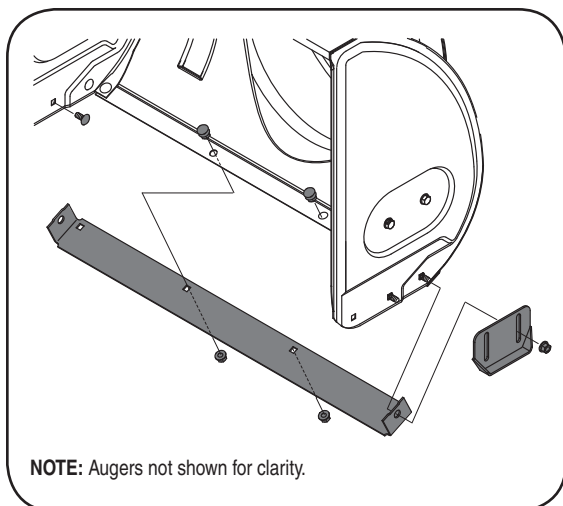

Figure 16
2. Reassemble new skid shoes with the four carriage bolts (two on each side) and hex flange nuts. Refer to Figure 16.